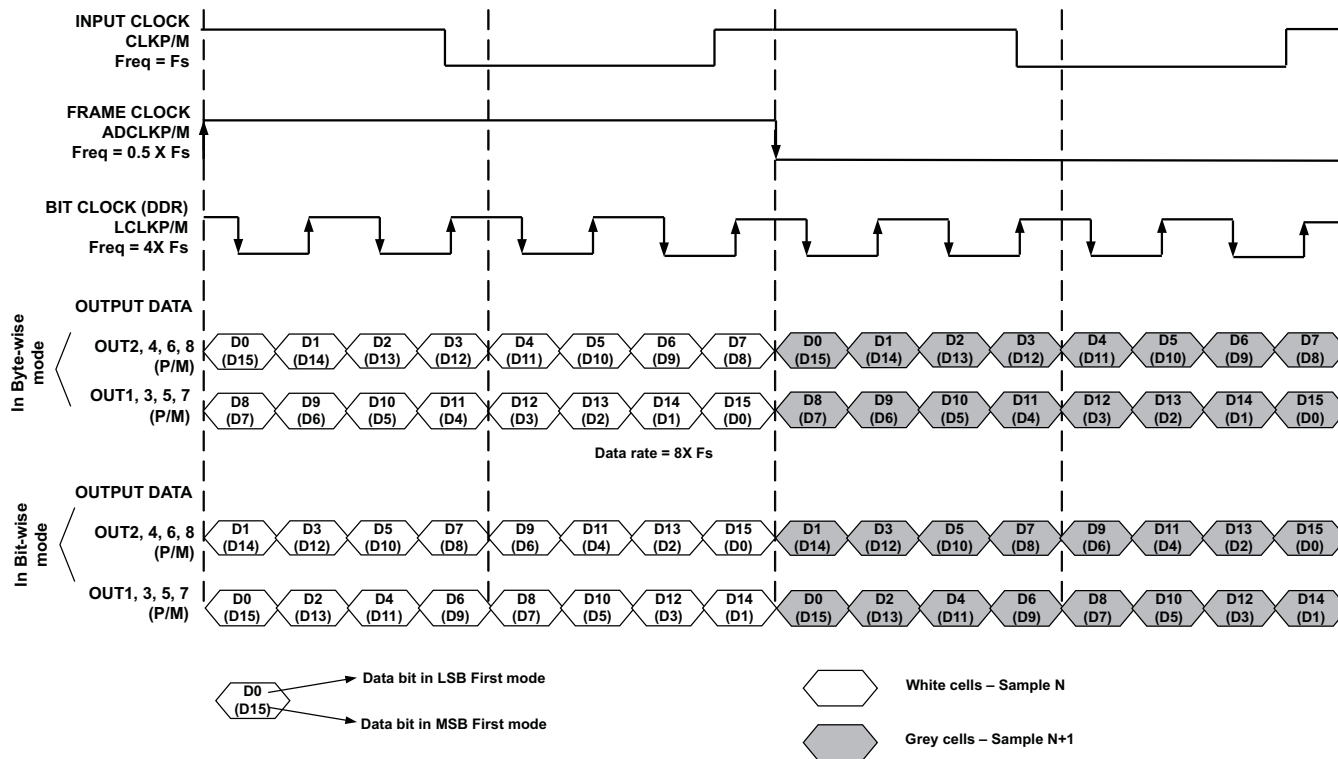
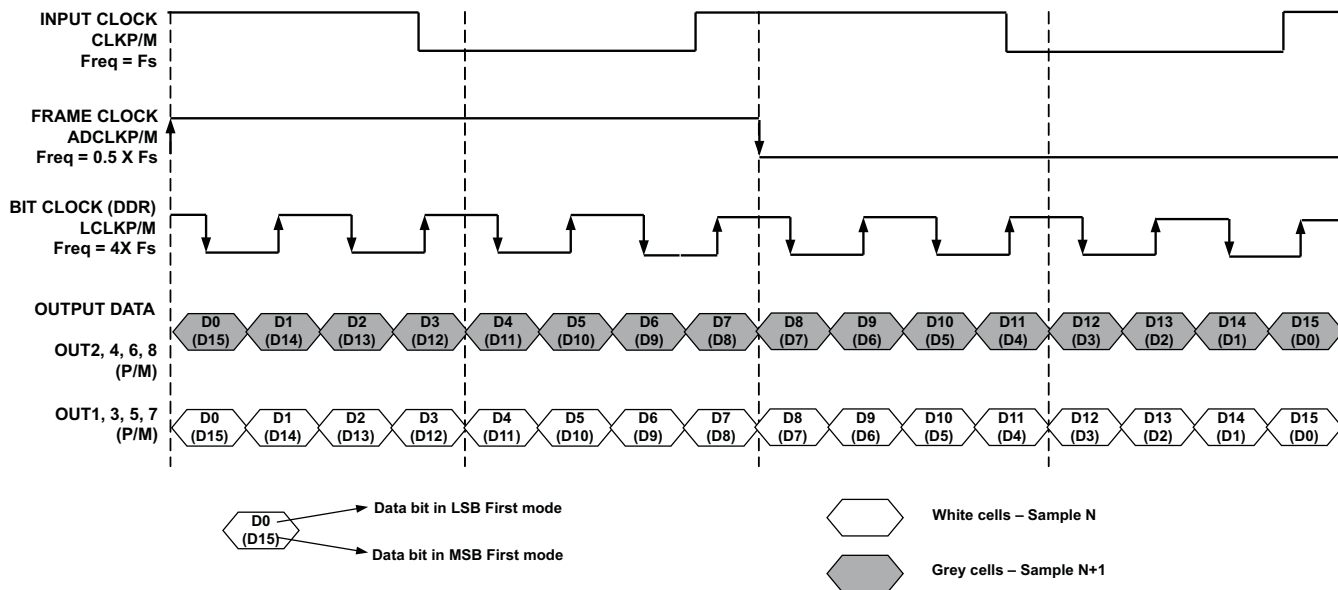

Figure 65. LVDS Output Interface, 2-Wire, 8x Serialization, Byte-wise and Bit-wise Modes
Figure 66. LVDS Output Interface, 2-Wire, 8x Serialization, Word-wise Mode
2. 2-wire, 8× serialization with DDR bit clock and 0.5× frame clock (16 bit ADC mode, Figure 65 and Figure 66)